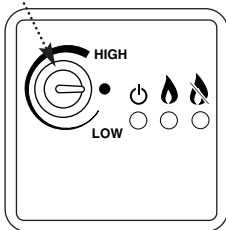

Fig. 9
4. Turn the boiler thermostat control knob fully anti-clockwise to the OFF position marked “●” (Fig. 9).
9. Turn the boiler thermostat control knob fully anti-clockwise to the OFF position marked “●” (Fig. 9).